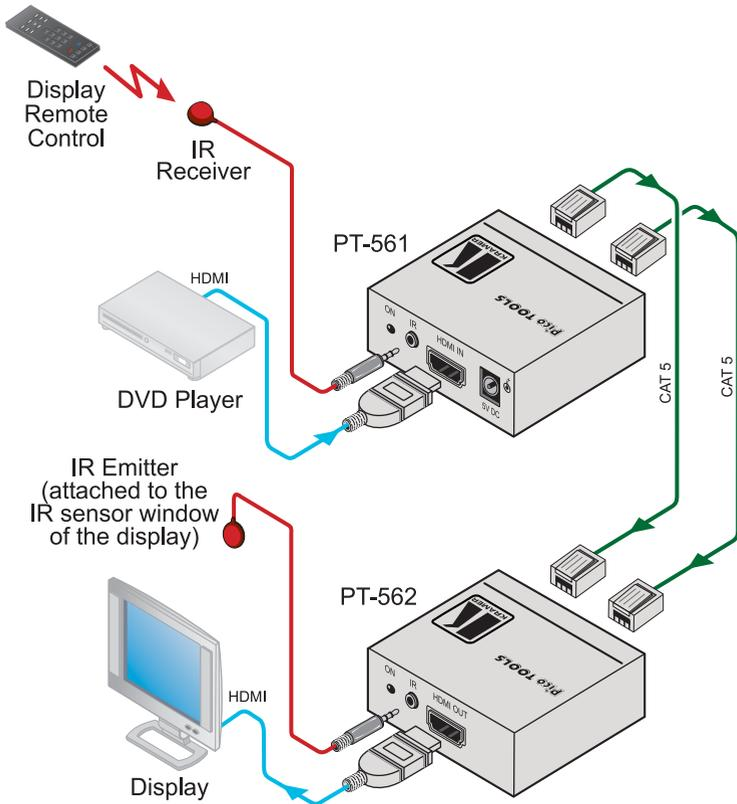

Figure 9: Connecting the PT-561/PT-562 HDMI Line Transmitter/Receiver
To connect the **PT-561** to the **PT-562**, as illustrated in the example in Figure 9, do the following:
3. Connect the 5V DC power adapter to the power socket and connect the adapter to the mains electricity to the **PT-561** (not shown in Figure 9).
In the example illustrated in Figure 9, the display can be controlled from a distance by transmitting the IR signal from the display remote control via the IR Receiver¹, CAT 5 cables and the IR emitter² which is attached to the IR sensor window of the display.